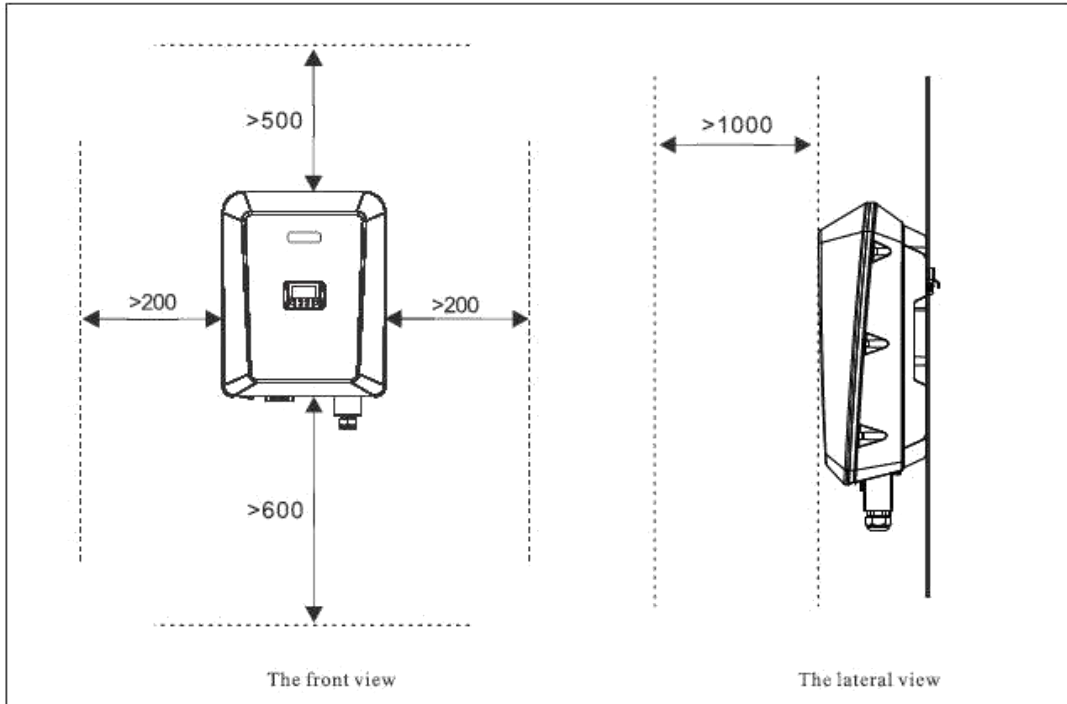

Figure 4.4 Installation Clearance Requirements (unit: mm)
- b. Reserve enough clearance around the inverter to ensure sufficient space for installation and heat dissipation, as shown in Figure 4.4.